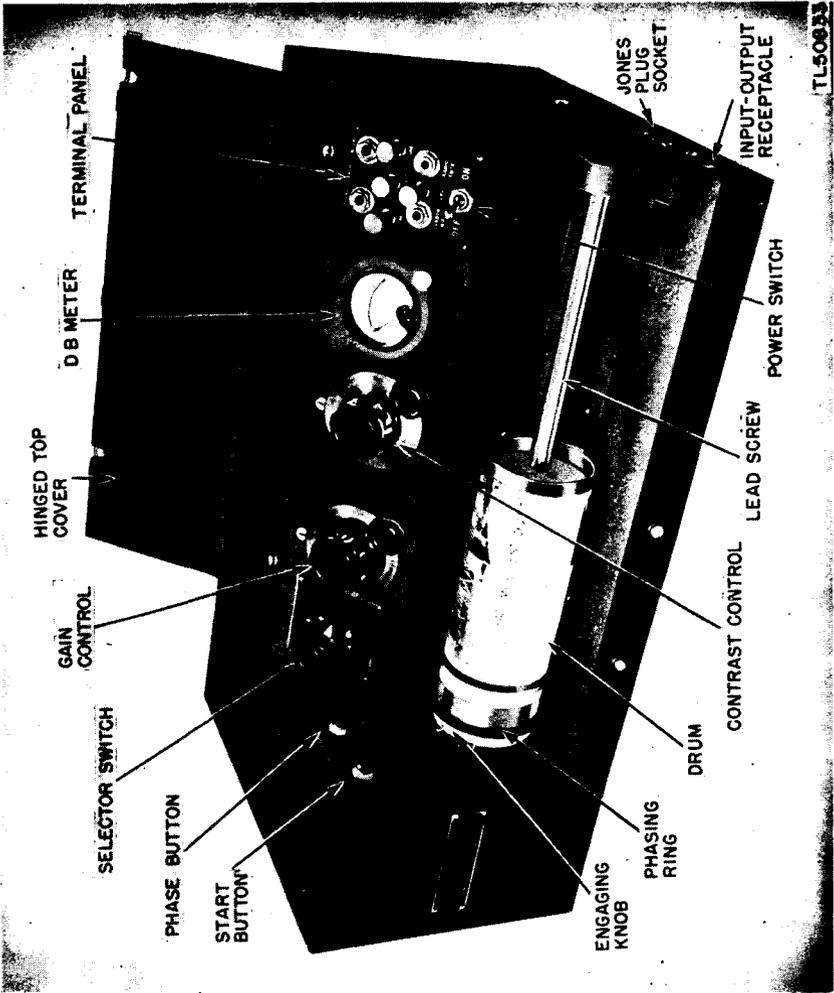

Figure 10. Facsimile Transceiver FX-1-B.
*a. Transmitting Phase Pulses.* The transmitting operator, having obtained the contrast range asked for by the receiving operator, sends out phase pulses in the following manner: The feed mechanism is disengaged by pushing back on the engaging knob (fig. 10). The drum is moved along the lead screw so that the light from the exciter lamp is focused on the phasing ring mounted on the drum alongside the engaging knob. The feed mechanism is left in the disengaged position so that when the motor is started the drum will not spiral by the action of the lead screw. The selector switch is set to TRANSMIT. During the time the beam of light strikes the white spot of the phasing ring, a phase pulse is transmitted. While the phase pulses are being transmitted, the receiving operator sets his drum in phase with the drum of the transmitter.
*b. Phasing the Receiving Transceiver.* While the phase pulses are being transmitted, the receiving operator phases his unit in the following manner: (1) The selector switch is set at RECORD PHOTO. The feed mechanism is disengaged, and the drum is moved to the correct position for the method of recording used. For RECORD PHOTO, the drum is moved to the extreme right, permitting a maximum of the original picture to be recorded; for RECORD DIRECT, the drum is placed so that the stylus will just clear the left-hand garter spring. The feed mechanism is left in the disengaged position, and the motor is started so that the drum rotates at the correct speed. The PHASE button is depressed *firmly*, completing the phasing circuit which energizes the phasing magnet. The phasing magnet is arranged so that it stops the drum of the receiver when the PHASE button is pushed and then releases it when the phasing pulse is received, causing the white spots of both drums to pass the scanning points at the same instant. Although the phasing magnet stops the receiving drum for an instant, the motor continues to operate, because
(1) Cut the original copy to  $7 \times 8\frac{5}{8}$  inches. Keep the actual message or picture for transmission to  $7 \times 7\frac{3}{8}$  inches for photographic recording and to  $6\frac{1}{4} \times 7\frac{3}{8}$  inches for direct recording. Pages from the message pad included in the equipment are of the right size. Use them if possible.
(2) Put captions on the copy to be transmitted by fastening them to the copy with scotch tape or by writing them on the copy.
(3) Throw the power switch of the transceiver to ON and wait for the high-pitched tone.
(4) Press backward the small knurled engaging knob on the left end of the drum to disengage the drum from the shaft (fig. 10). Push the drum to the right-hand end of the lead screw. Place the clamping bar on top of the drum.
(5) Raise one side of the T-shaped end of the clamping bar and place one edge of the copy, face up, under it. Revolve the drum forward, wrapping the copy around the drum. Raise the other edge of the bar and place the other edge of the copy under it, pulling the copy tight on the drum with a wiping motion.
(6) Make certain that there are no bulges in the copy. If the copy is too small to fit on the drum with the clamping bar, fasten it on with scotch tape.
(7) Transmission can be either positive or negative. In positive transmission, black portions of the copy are translated into high-level signals which print at the receiving end as black. In negative transmission, black portions of the copy